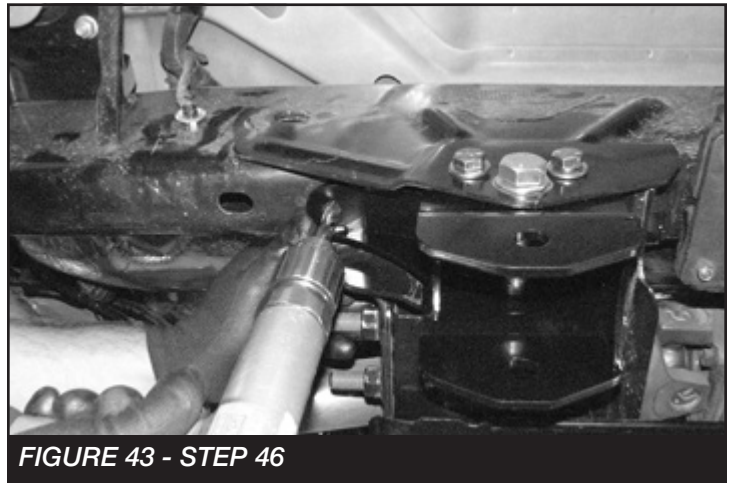

FIGURE 43 - STEP 46
46. Using the Fabtech the radius arm drop bracket as a drill guide, drill a 1/2 hole through the bottom of the frame. **SEE FIGURE 43**